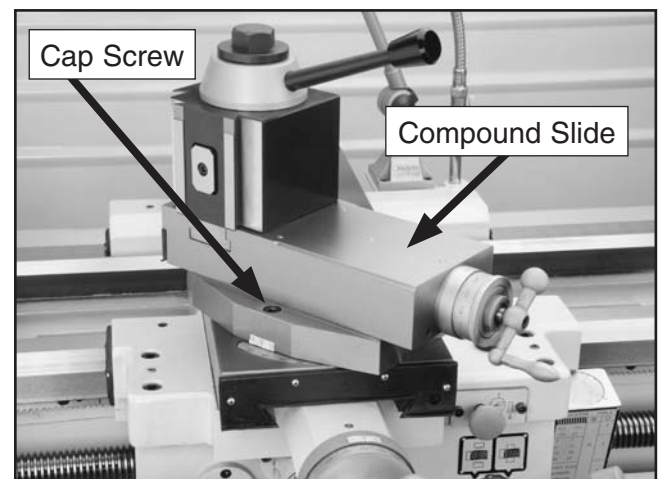

Figure 38. Compound slide set at an angle.
1. Loosen the two cap screws, one on each side of the compound slide (see **Figure 38**).